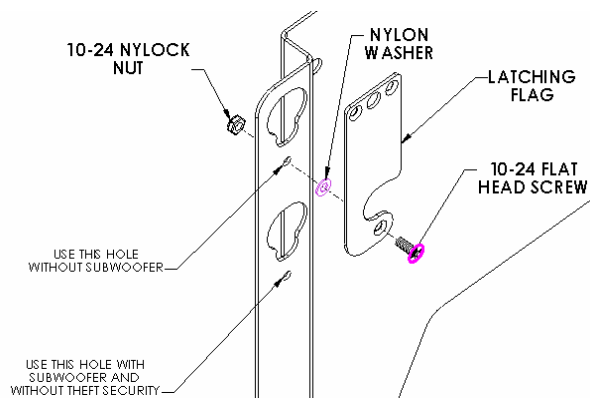
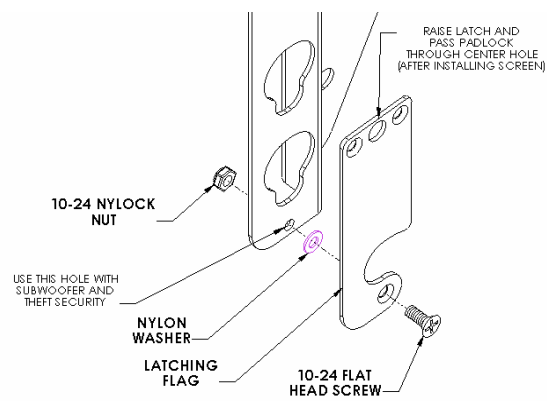

Figure 2
Figure 3
1. Attach latching flag to mount using the 10-24 Phillips flat head screw, Nylon washer, and Nylock nut (see Figure 2 & Figure 3). Use proper holes depending on type of installation. Tighten until friction will hold the flag in place.